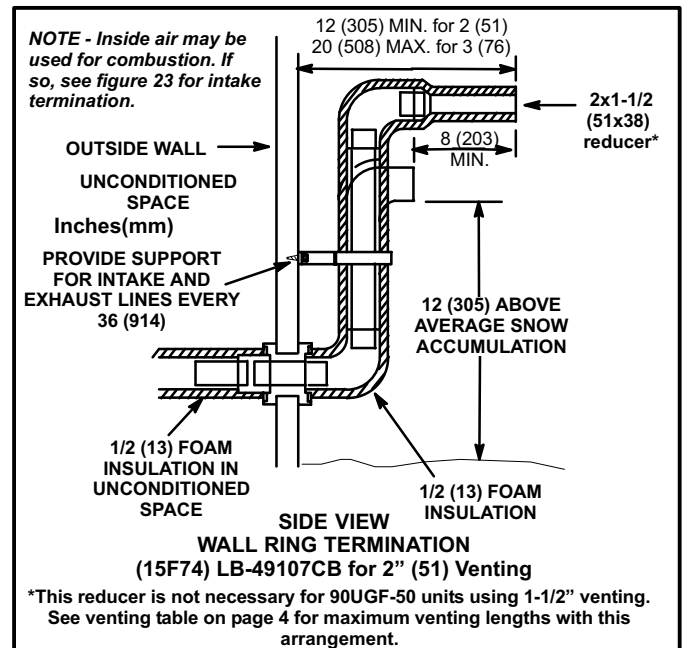
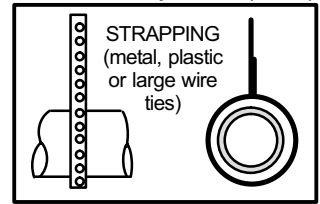
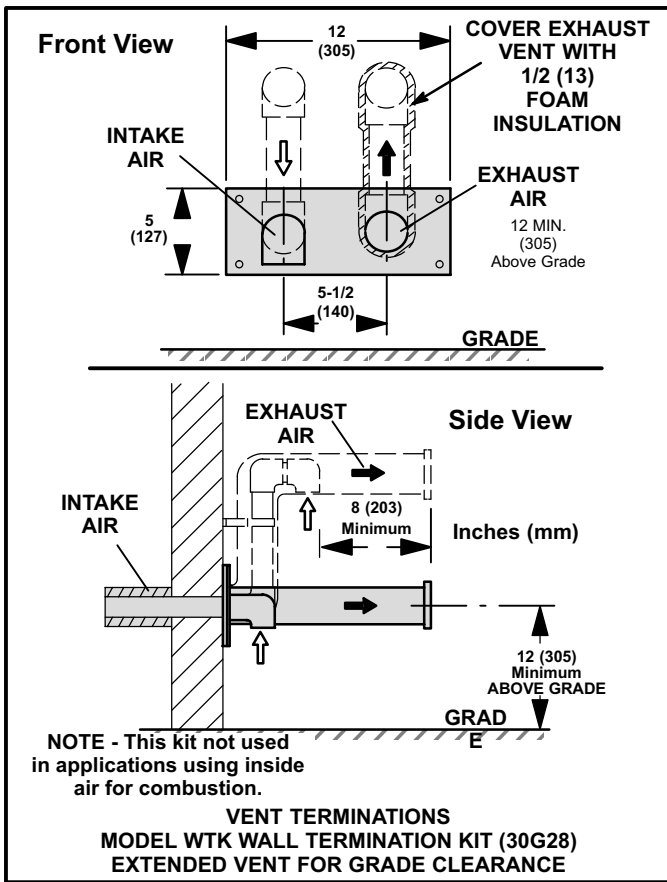
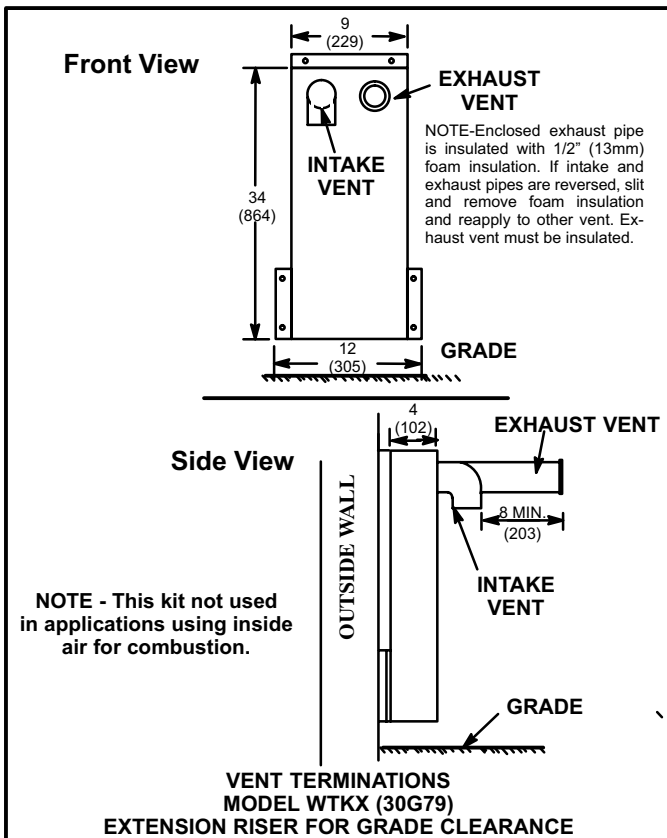

FIGURE 29
FIGURE 31
FIGURE 34
FIGURE 35
- 8 - If intake and exhaust piping must be run up a side wall to position above snow accumulation or other obstructions. Piping must be supported every 3 ft. (.91m) as shown in figure 31. Refer to figures 29 and 30 for proper piping method. WTK wall termination kit must be extended for use in this application. See figure 34 or use kit WTKX shown in figure 35. When exhaust and intake piping must be run up an outside wall, the exhaust piping is reduced to 1-1/2" (38mm) after the final elbow. The intake piping may be equipped with a 90° elbow turndown. Using turndown will add 5ft. (1.5m) to the equivalent length of the pipe.